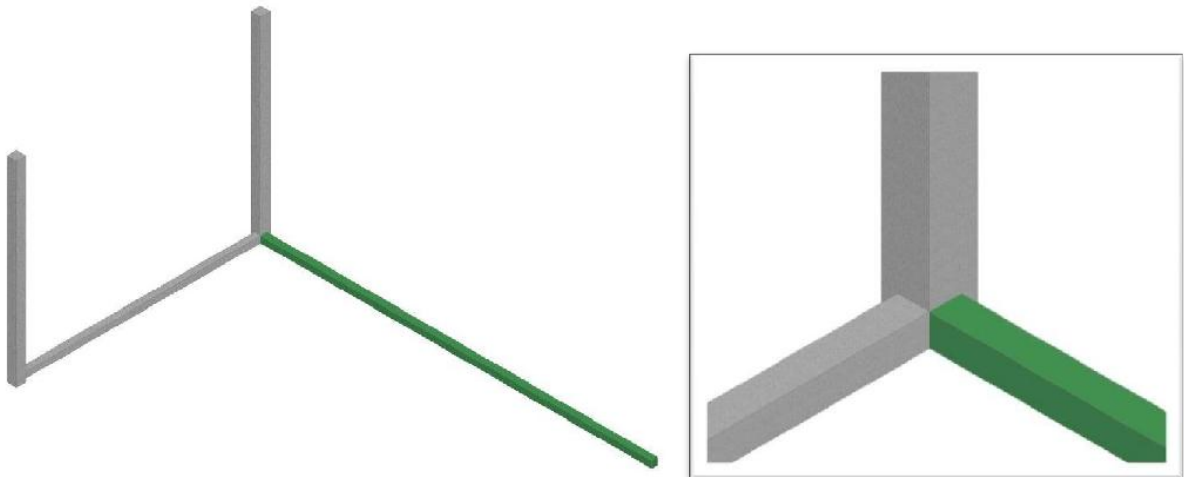

Figure 5: 3D Image of 120.5cm square pipe connection (left) 3D image of flush connection at corner (right)
- 2.3. Weld a 2x2cm 120.5cm long piece of square pipe to a corner of the U-shape as seen in the images below. Make sure the piece is flush with the inside edge (See Figure 5).
2.4. Weld another 2x2cm 120.5cm long piece of square pipe to the other corner of the U-shape as seen in the image below. Again making sure the piece is flush with the inside edge (See Figure 5).
2.5. Weld the other U-shaped piece to the open ends of the 120.5cm long pieces of 2x2cm square pipe. Once again, make sure that the inside edges are flush with one another (See Figure 5).